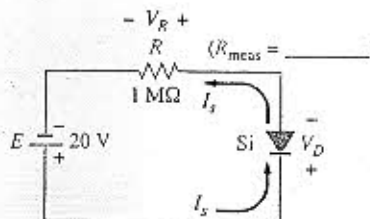

Figure 2-6
- a. In Fig. 2.6 a reverse-bias condition has been established. Since the reverse saturation current will be relatively small, a large resistance of $1\text{ M}\Omega$ is required if the voltage across R is to be of measurable amplitude. Construct the circuit of Fig. 2.6 and record the measured value of R on the diagram.